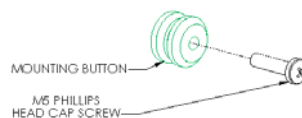
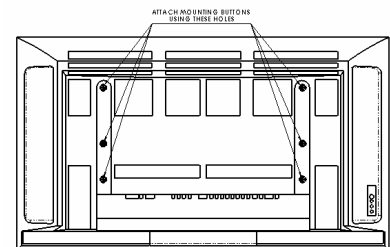

Figure 3
Figure 4
2. Attach mounting buttons to display using four M5 screws provided (see Figure 3 & Figure 4).